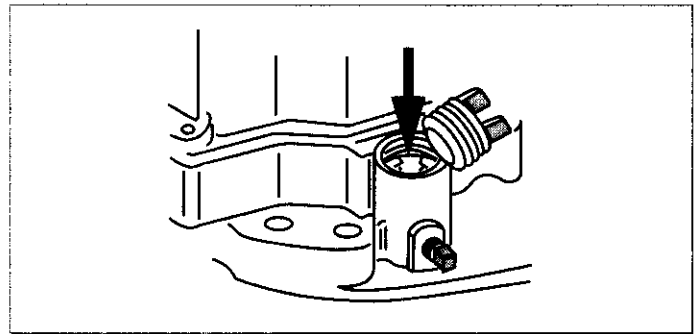

Figure 8. Engine With Oil Fill Plug
2. Clean area around oil fill plug. See Figure 8.